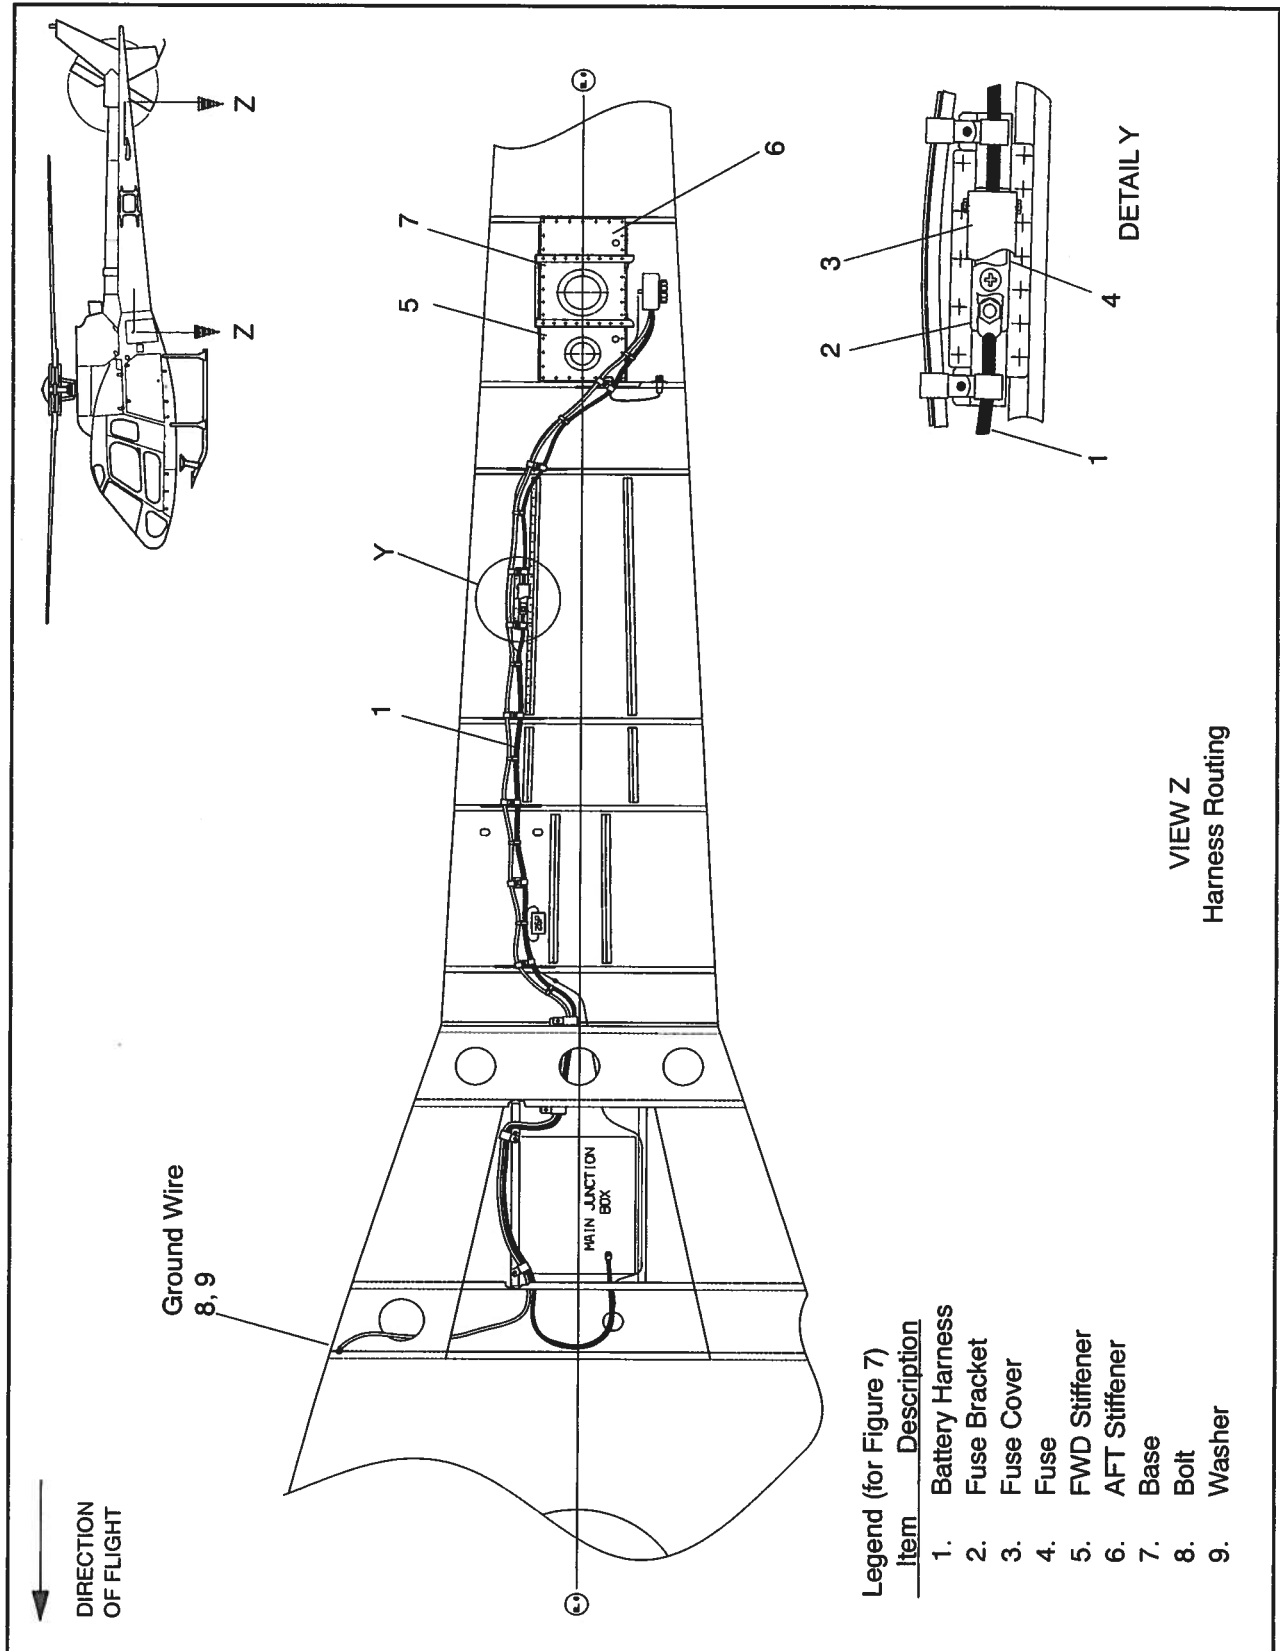
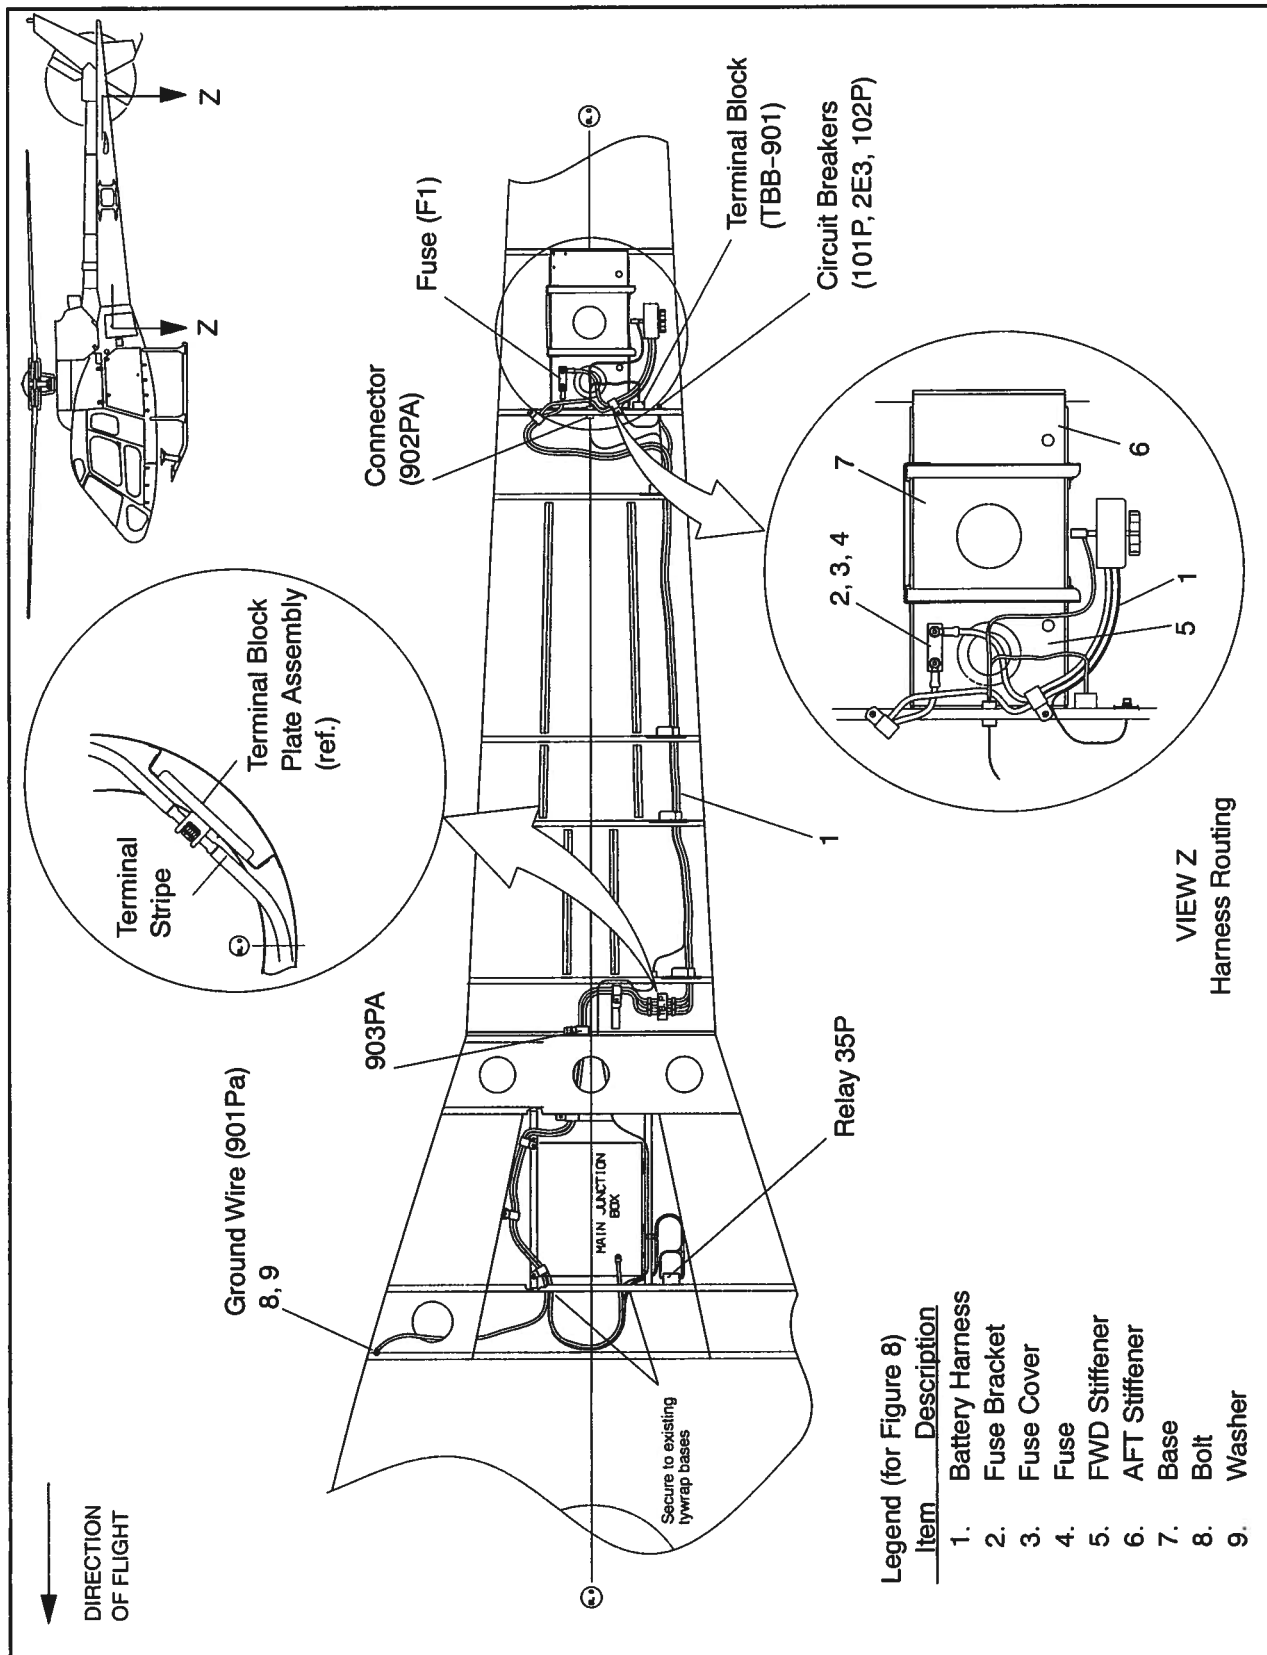
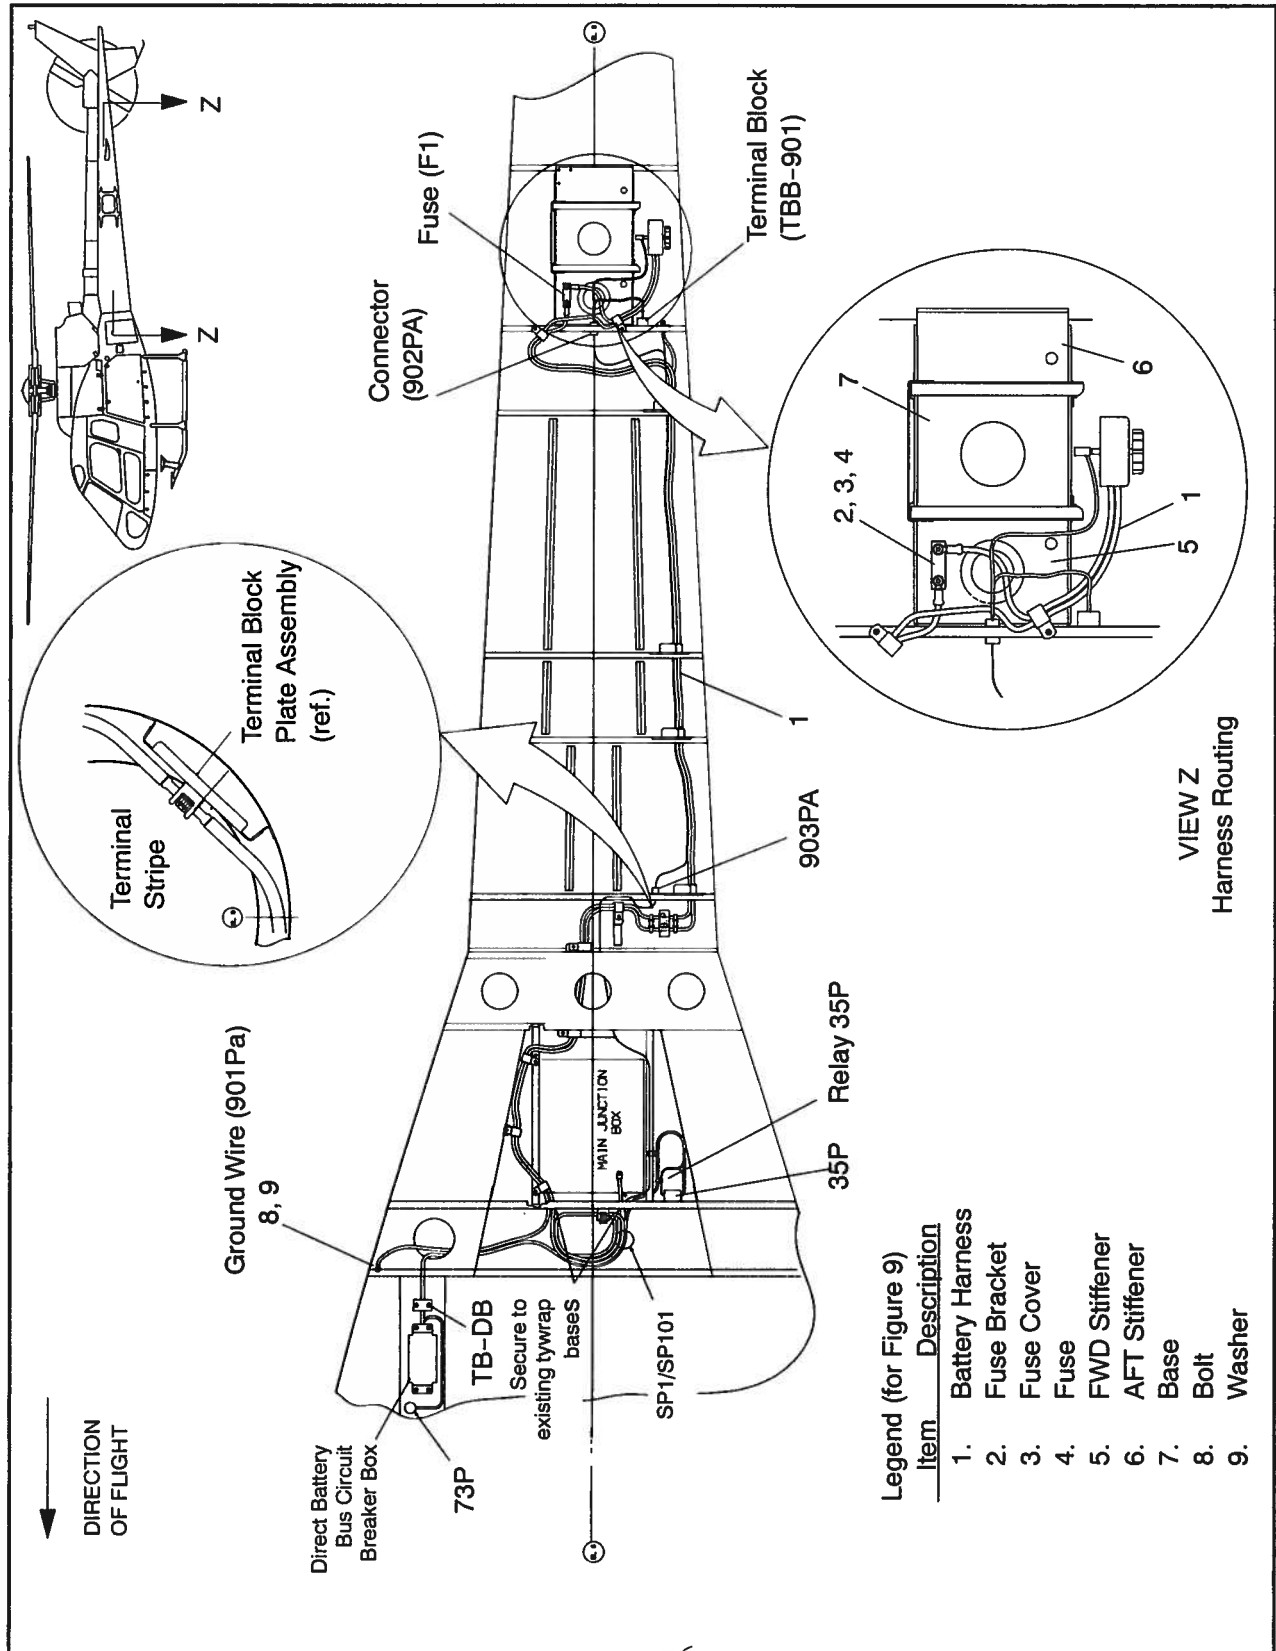
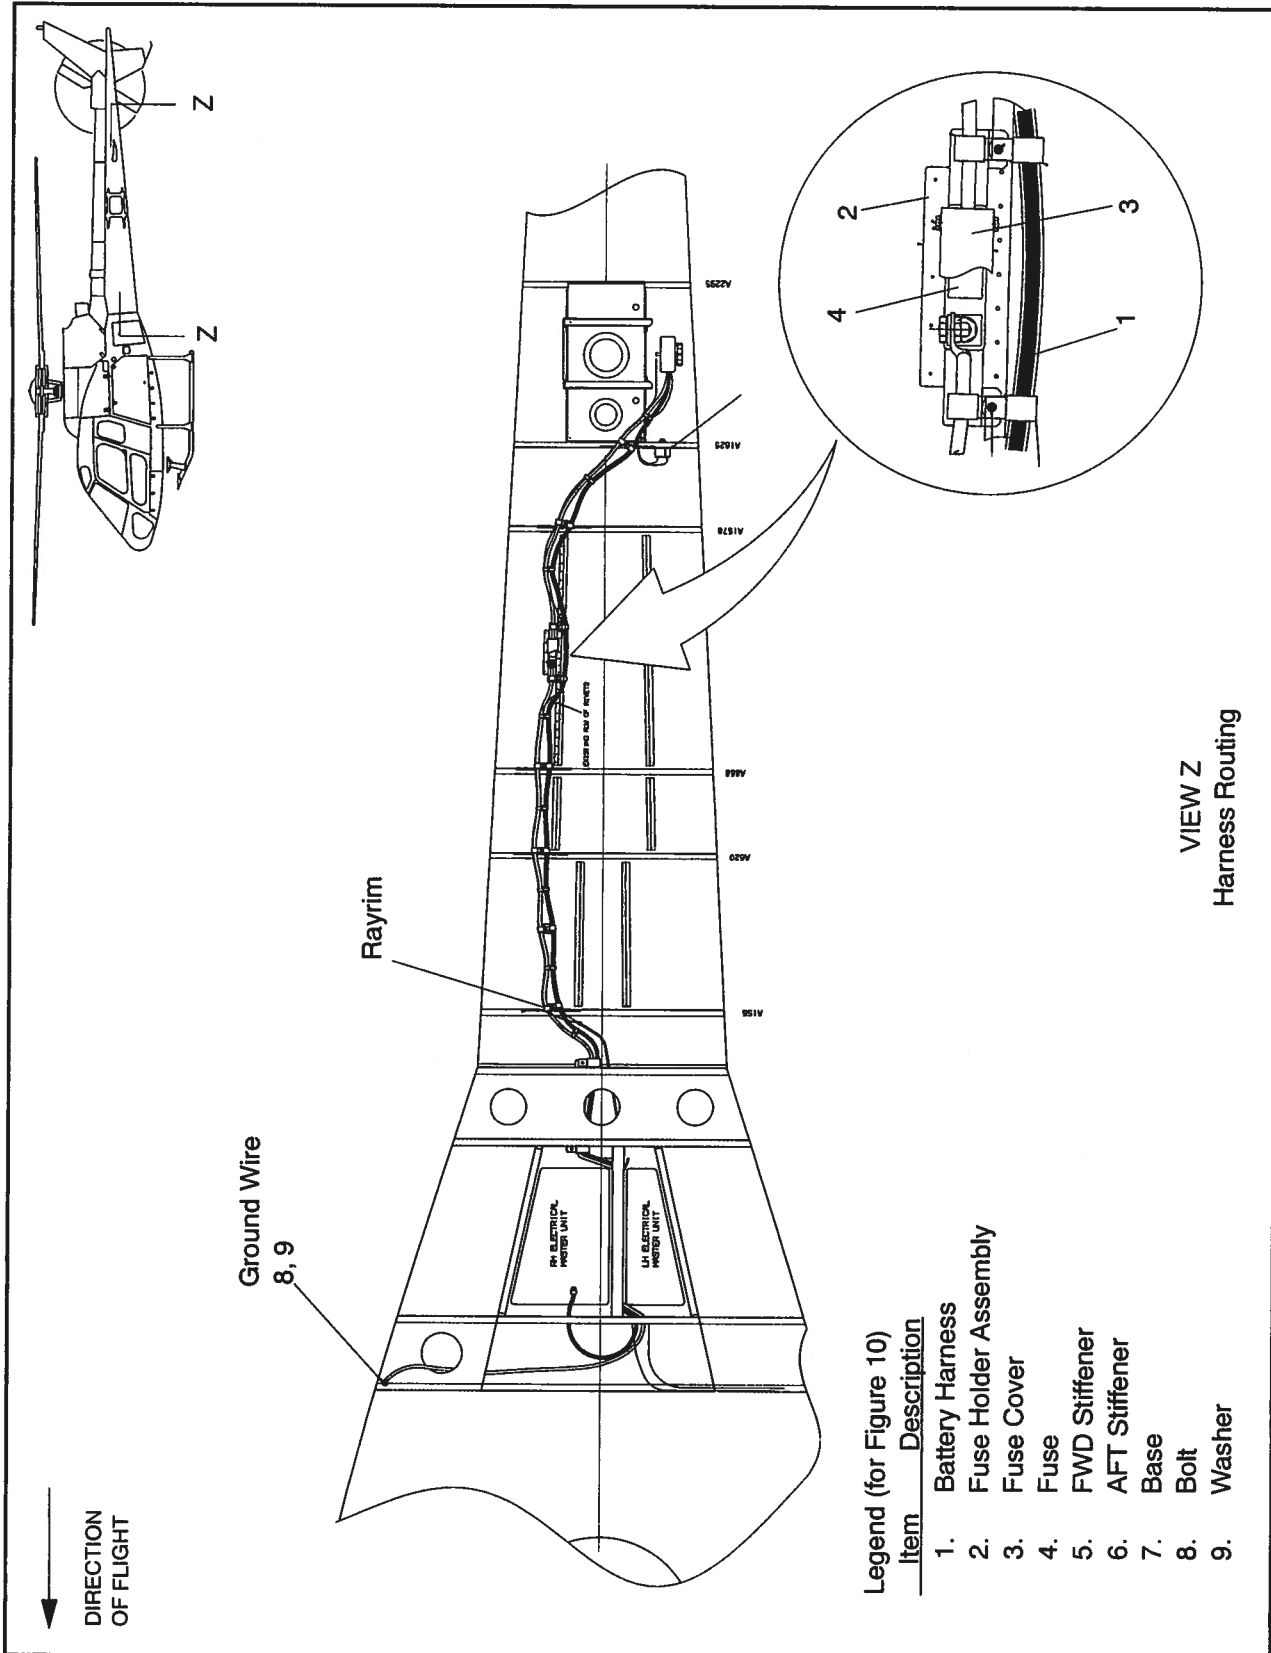

Figure 7 AS 350 Harness Routing - Tail Boom PRE AMS 07-3273 and 3274
Figure 8 AS 350 Harness Routing - Tail Boom POST AMS 07-3273 and 3274
Figure 9 AS 350 Harness Routing - Tail Boom MOD AMS 07-4280 (AS 350 B3 only)
Figure 10 AS 355 Harness Routing - Tail Boom
- Base (Refer to Figures 7, 8, 9 and 10)
- FWD and AFT Stiffener (Refer to Figures 7, 8, 9 and 10)
For AS 350 POST AMS 07-3273 and 3274, the fuse holder assembly is located on the battery tray. Refer to Figure 7.
For AS 355 the fuse holder assembly is located in the tailboom. Refer to Figure 10.
For AS 350 Harness routing in the tail boom for PRE AMS 07-3273 and 3274 refer to Figure 7. For AS 350 Harness routing in the tail boom for POST AMS 07-3273 and 3274 refer to Figure 8. For AS 350 Harness routing in the tailboom for MOD AMS 07-4280 (AS 350 B3) refer to Figure 9. For AS 355 Harness routing refer to Figure 10.